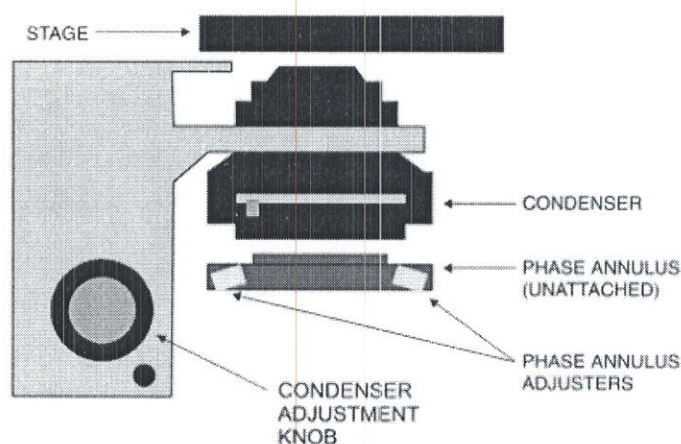

Figure 7-1. Condenser Adjustment
2. Locate the condenser (see Figure 7-1).
3. Verify that the stage is **Loaded In**, and that the condenser is positioned upward, close to the stage. Rotate the condenser adjustment knob (Figure 7-1) until the condenser touches the stage and then back off slightly, approximately 1mm.